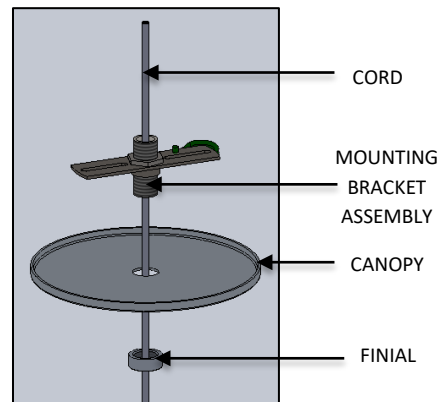

FIG. 23 - CORD INSTALLATION
1. INSERT CORD into CANOPY FINIAL (THREADS UP), CANOPY and MOUNTING BRACKET as shown in FIG.23 and adjust fixture drop to desired height.